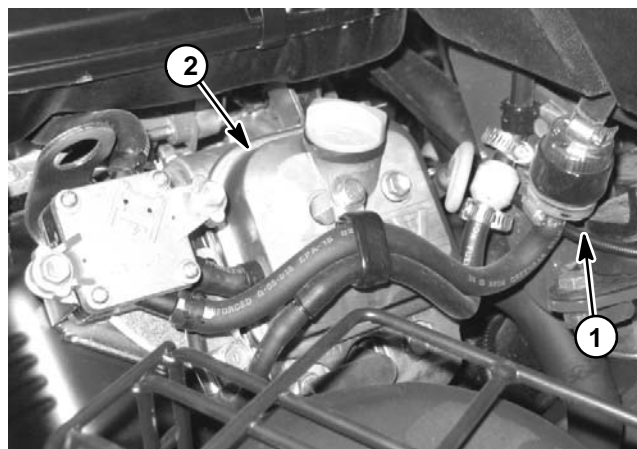

Figure 17
- A. On Greensmaster 3320 machines, disconnect hose from fuel filter that is located next to rear cylinder head (Fig. 17). Also, disconnect fuel evaporative system hoses as needed to allow tank mount plate to be removed from machine (see Fuel Evaporative Control System in Chapter 3 – Gasoline Engine).
7. Remove four (4) screws that secure tank mount plate to frame.